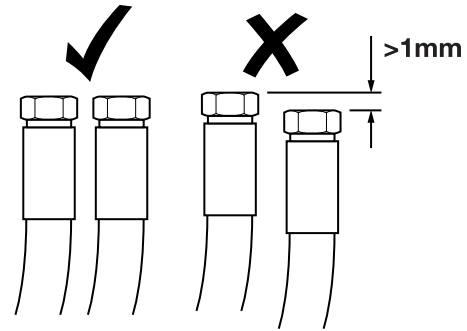

Fig 97.
- a Before proceeding with the assembly, ensure that in all twin hose assemblies, the hoses are of equal length. → Fig 97. (□ B-105). Any hose pairs which are misaligned by more than 1mm must not be used.